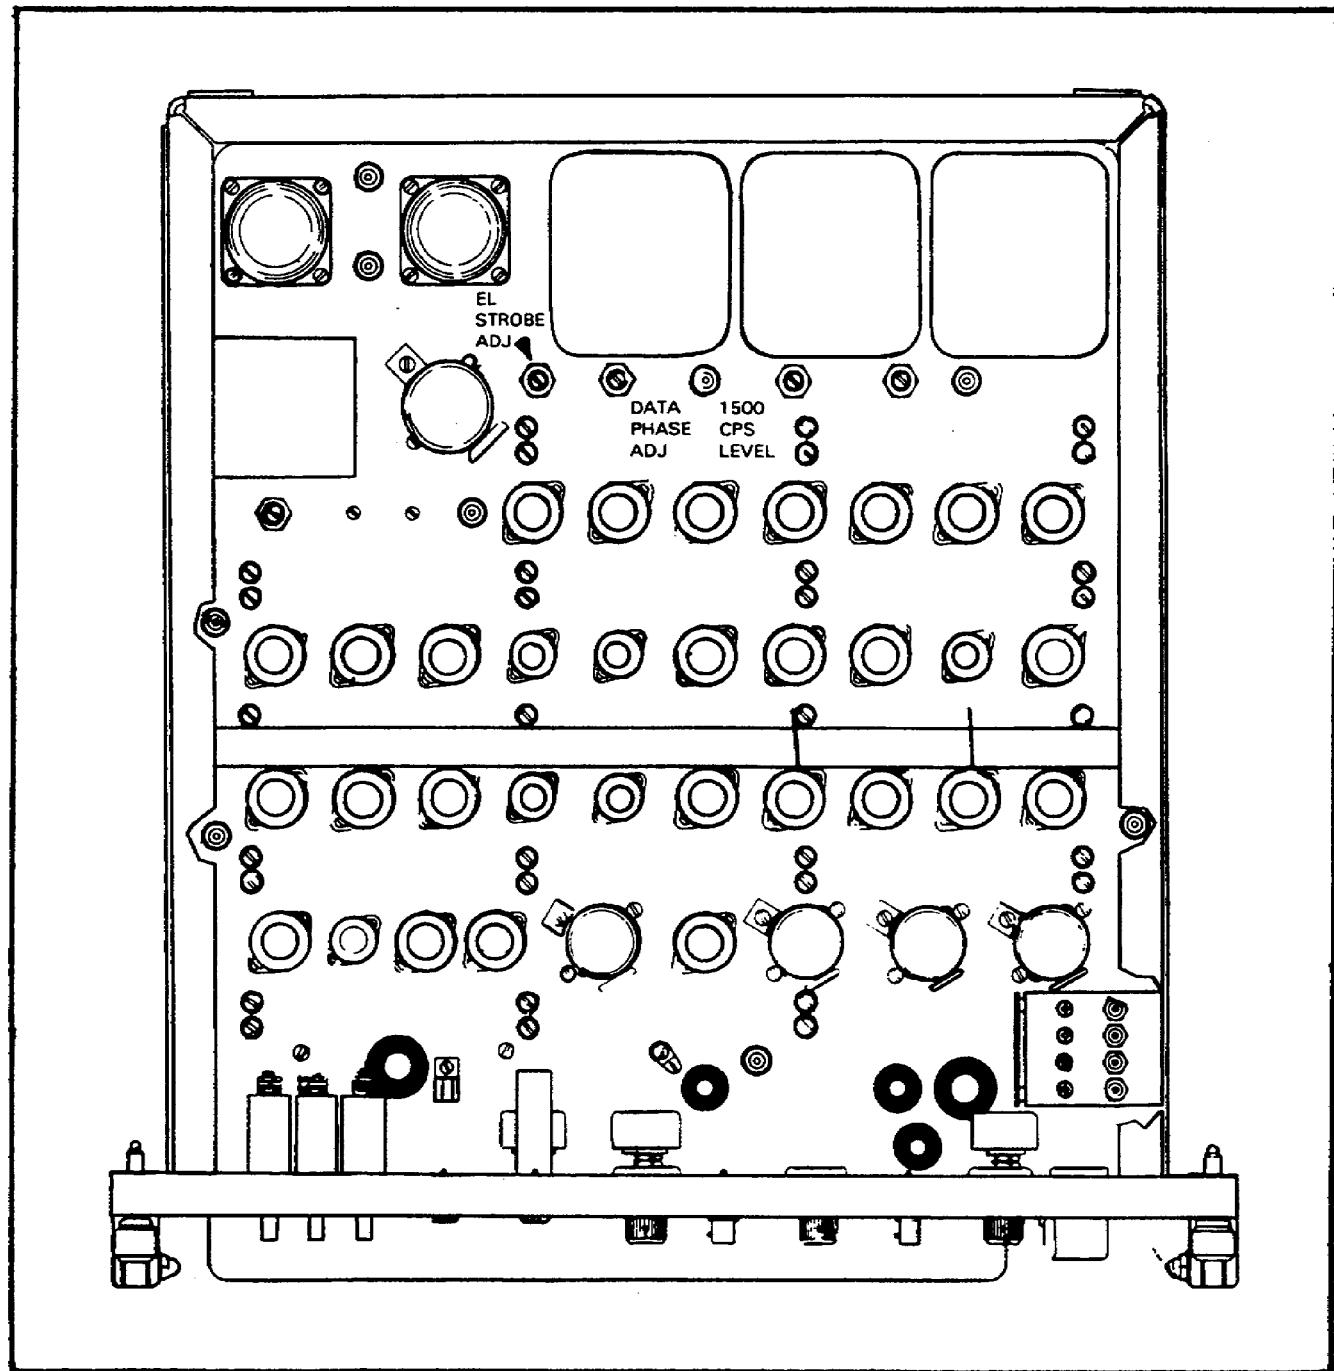

Figure 42. Computer navigational CP-338/FPN-33.
s. Locate the EL STROBE ADJ control R408. It is to the rear and to the left as you are looking down into computer navigational CP-338/FPN-33. (See Figure 42.)
- EL STROBE ADJ control R408 (Figure 42)